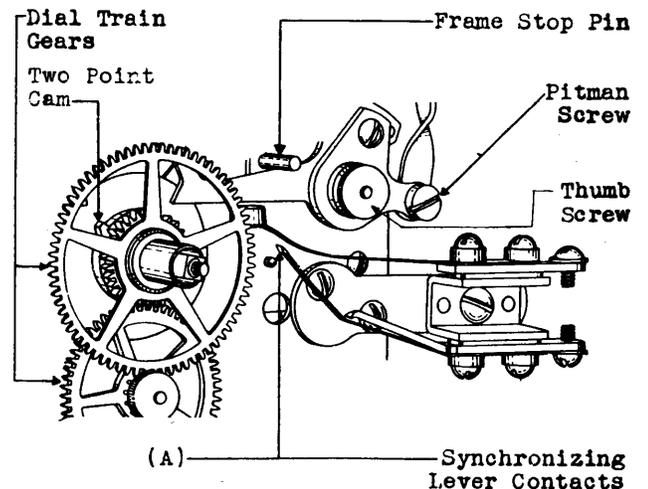
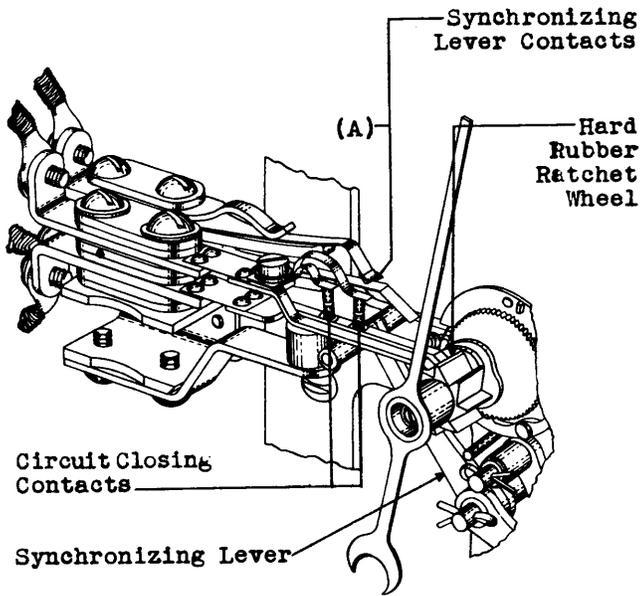

Fig. 7 - Synchronizing Lever Contacts
Fig. 8 - Synchronizing Lever Contacts
*2.25 Contact Separation - Fig. 7 (A) and Fig. 8 (A): With the contacts in the unoperated position the contact separation shall be
screw by hand and removing the pitman screw (See Fig. 7) with the 3-1/2" cabinet screw-driver. Then remove the cannon socket assembly.